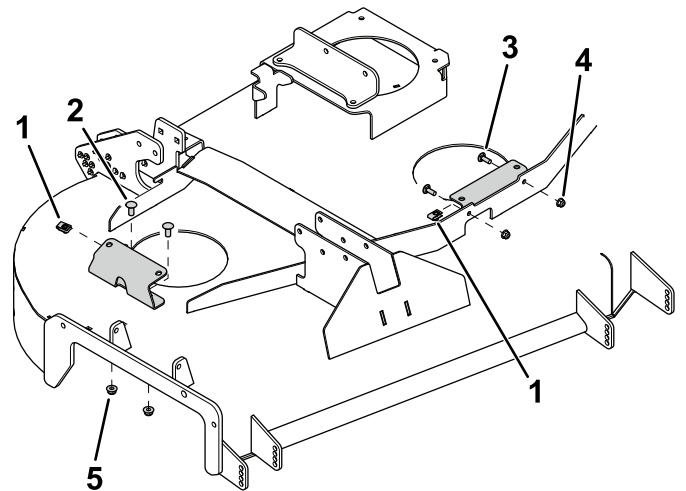

Figure 7
2. Use 4 carriage bolts and 4 nuts (3/8 inch) to secure the side belt-cover brackets to the cutting unit (Figure 7).
3. Use 2 nuts (5/16 inch) and the previously-removed carriage bolts to secure the middle belt-cover bracket to the cutting unit (Figure 7).
4. Position the U-nuts to the belt-cover brackets as shown in Figure 7.